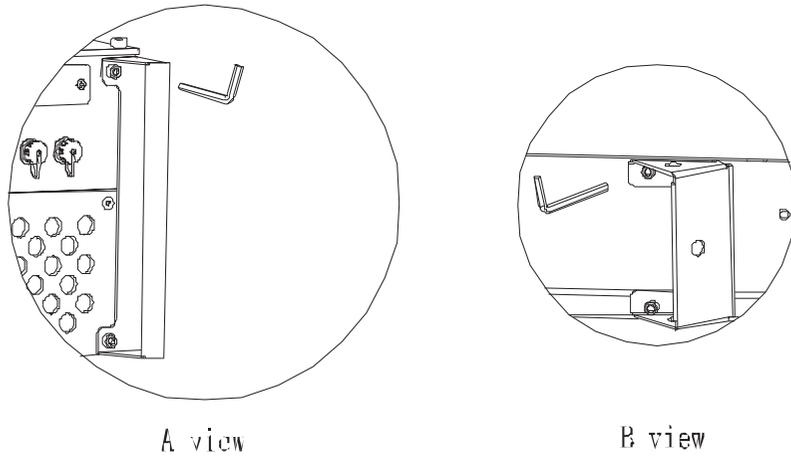

Fig 8.1.1
3. Remove the handles on both sides of UE inverter as fig.8.1.1 B View show.